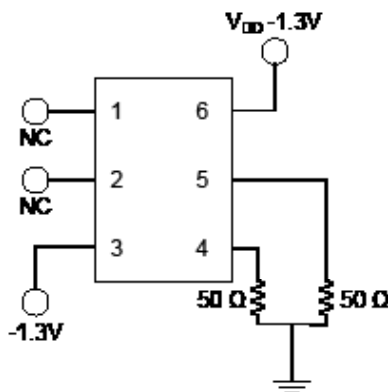

Figure 1.
- Figure 1 defines the test circuit and Figure 2 defines these parameters.